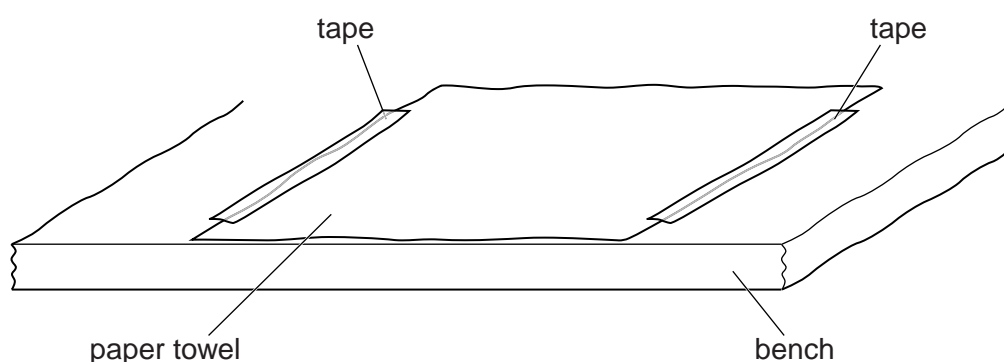

Fig. 1.1
1. The paper towel should be taped to the bench as shown in Fig. 1.1.